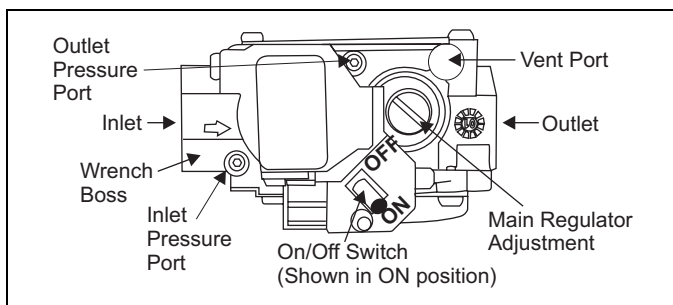

FIGURE 6: Single Stage Gas Valve
5. Move gas control switch to the "OFF" position. Do not force. See Figures 6 & 7.
6. Wait five (5) minutes to clear out any gas. If you then smell gas, STOP! Follow "B" in the safety information above. If you don't smell gas, go to next step.
7. Move gas control switch to the "ON" position. Do not force. See Figures 6 & 7.
11. After three (3) trials for ignition, if the appliance will not operate follow the instructions, "TO TURN OFF THE APPLIANCE" and call your service technician or gas supplier.
4. Move gas control switch to the "OFF" position. See Figures 6 & 7.
3. Check that the ON/OFF switch on the gas valve is turned to the ON position. Refer to Figures 6 & 7.